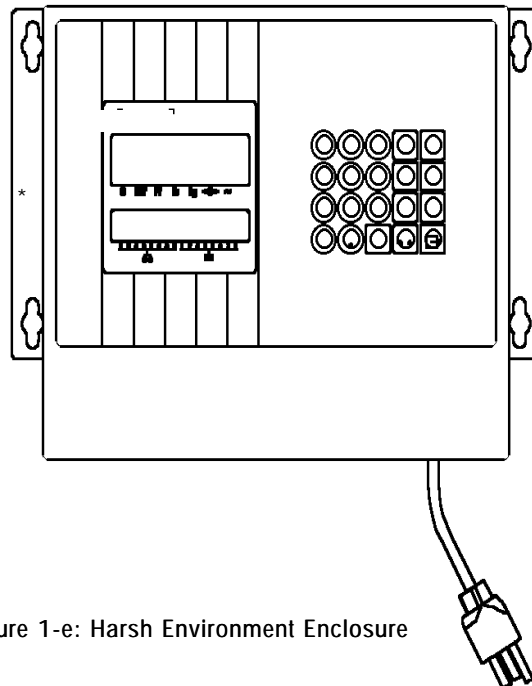

Figure 1-e: Harsh Environment Enclosure
2. Mount the brackets using the four stainless steel screws supplied with the unit. Refer to Figure 1-e. Note the correct positioning of the mounting brackets. The slotted holes must protrude beyond the enclosure and the bracket tabs must point toward the front as shown.
4. Using the dimensions given in Figure 1-b, prepare the mounting surface to accept the enclosure. The mounting surface and brackets must be able to support a total of 45 lb (20 kg).